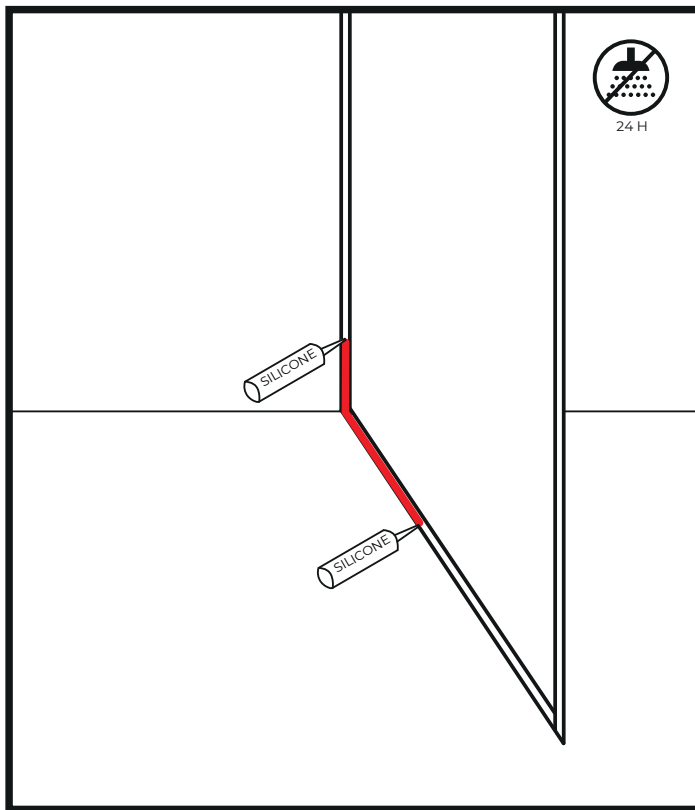
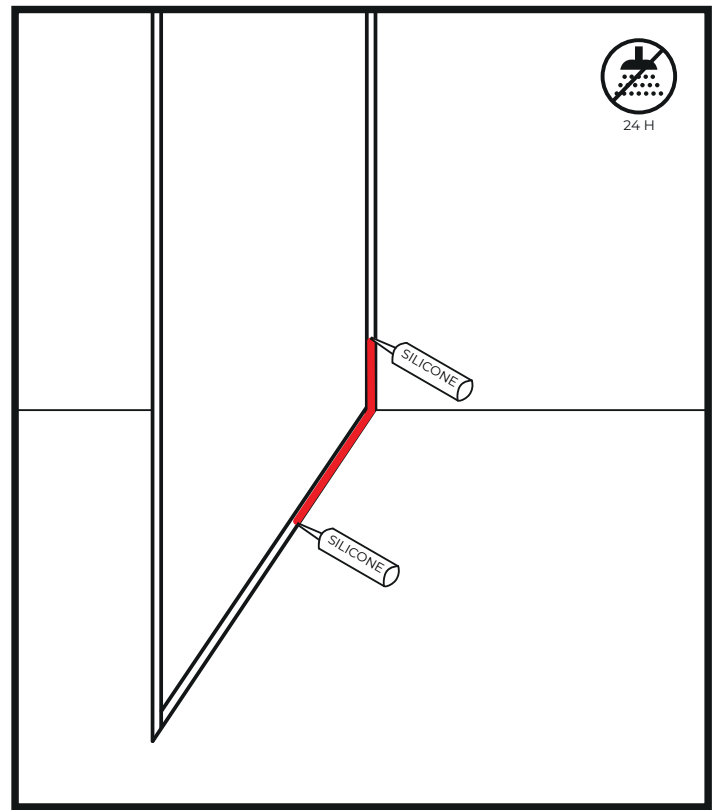

Figure 12
Figure 13
32. Apply an even bead of silicone to the edges of the U-profiles on both the inside (Figure 12) and outside (Figure 13) of the shower enclosure.